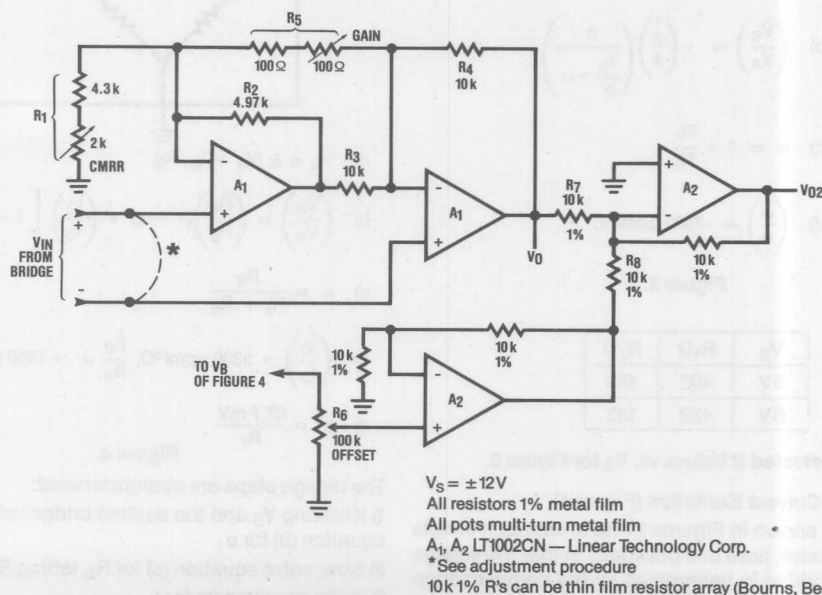

Figure 5.
range is limited to $25^\circ\text{C} \pm 15^\circ\text{C}$ and an accuracy of $\pm 2\%$ is adequate. For more precise applications, amplifiers such as the LT1014 and LT1002 have been found to be excellent. For example, a design using the temperature compensation circuit shown in Figure 4, in conjunction with the op amp circuit shown in Figure 5, exhibited a worst case full-scale span error of less than 0.8% from 0°C to 100°C , with the error being less than 0.2% from 25°C to 75°C .
1. Adjust the common-mode rejection by adjusting R_1 . This can be quickly and accurately done by jumpering the two bridge arms together (see dashed line in Figure 5) and adjusting R_1 until the voltage at V_O is at 0.000 V.